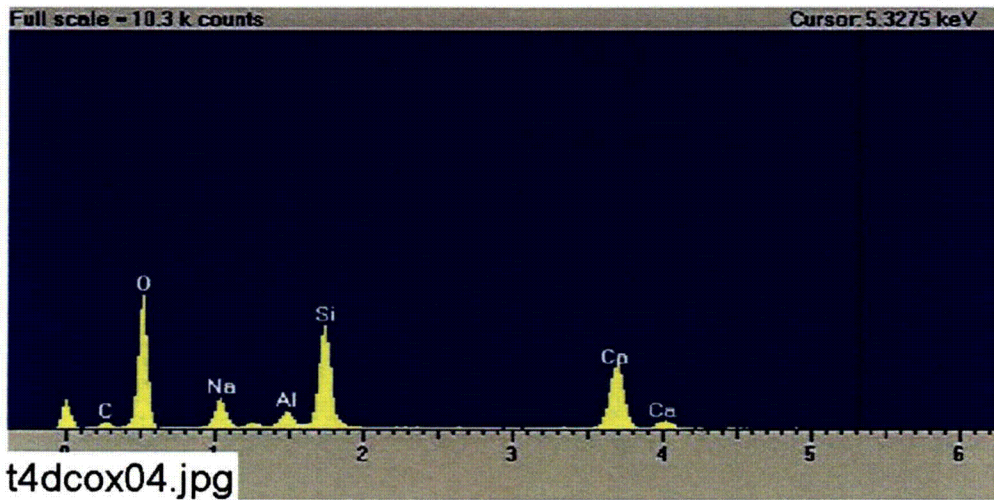

Figure C6-5. EDS counting spectrum for the large mass of particulate deposits on fiberglass shown in Figure C6-4. (t4dcox04.jpg)
- Figure C6-5. EDS counting spectrum for the large mass of particulate deposits on fiberglass shown in Figure C6-4. (t4dcox04.jpg)..... C6-7